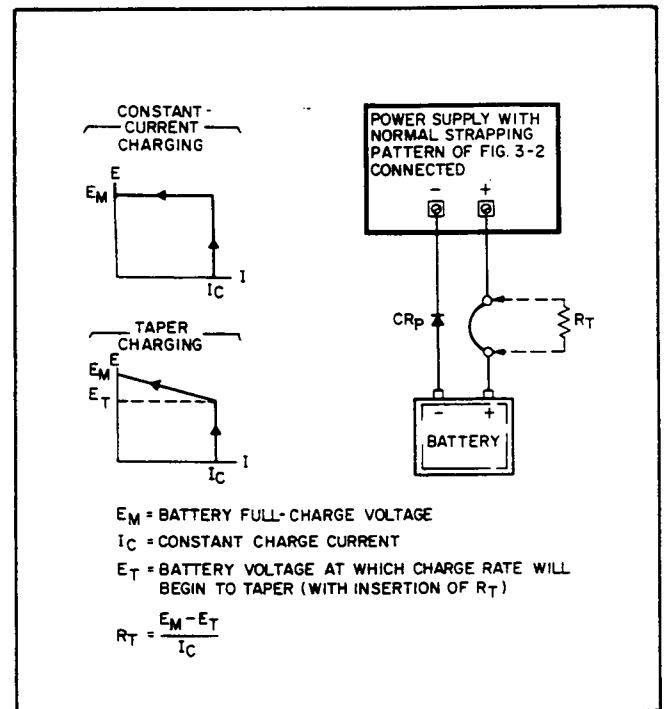

Figure 3-16. Battery Charging
Any time these supplies are used to charge a battery, be sure to install a protective diode CR_P in series with the battery as shown in Figure 3-16 to prevent the battery from discharging into the supply if the supply is turned off. Extensive damage to the supply could result if this diode were omitted.
- b. Connect a short circuit across the output terminals and rotate the VOLTAGE control fully clockwise (CW).
- e. Adjust the VOLTAGE control for an output voltage 0.7 volts greater than the desired full charge voltage. (The added 0.7 volts compensates for the drop across CR_P .) The supply may then be connected to the battery terminals, positive to positive and negative to negative as shown in Figure 3-16 (omit R_T).
3-90 Taper Charge. When charging lead-acid cells, many manufacturers recommend that the charging current be reduced as the charge nears completion. This can be accomplished by inserting a small resistance (R_T) in series with one of the load leads from the supply to the battery. (See Figure 3-16.) This resistor alters the normally rectangular charging plot in such a manner as to provide a taper charge for the last portion of the charge. The proper value for this resistor is the difference between the full charge voltage and the voltage at which the tapering is to start, divided by the initial charging current. Set the initial charging rate and full charge voltage as instructed in paragraph 3-89.